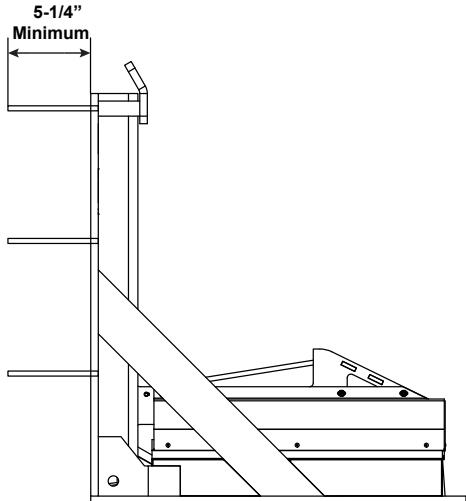

Figure 8
Using back plate as a guide, drill six (6) holes for wedge anchors (3/4" x 5-1/4" min, see Figure 8). Install anchors. Where possible, back plate should also be welded to curb angle with 1/4" fillet weld.